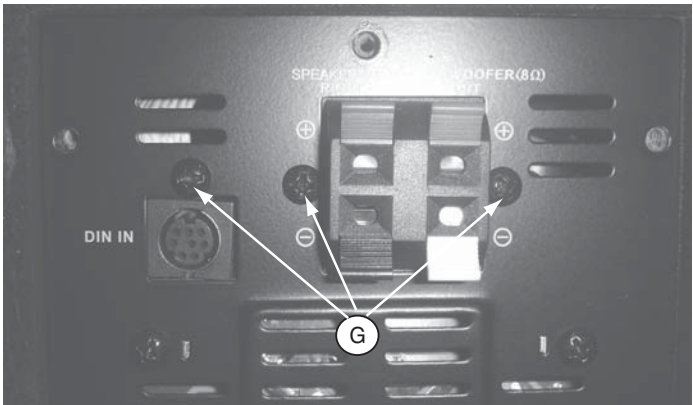

Figure 7
- 2) Loosen 3 screws "G" on the rear plate to dismantling the Amplifier board as shown in figure 7.